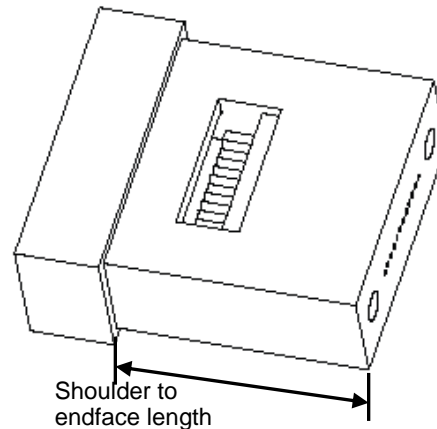

Figure 1. MT Ferrule
- Inspection data for shoulder to endface length, see Figure 1 below